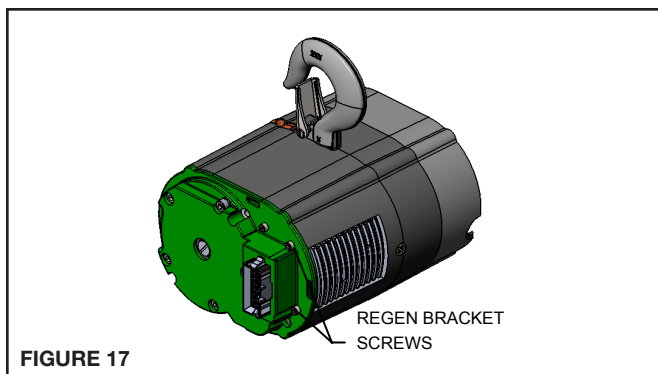

FIGURE 17
8. To remove the stator, first remove the three motor cover screws (129) and pull the motor control end cover a few inches away from the motor. Ground screw (164) must be removed from the motor end bell. Also remove the 10 wiring harness leads from the motor control PCB by individually lifting the spring loaded retention levers on the terminal strip and pulling the wire from the block. Remove the regen bracket screw (141), and loosen the two screws holding the regen bracket to the end bell. (Figure 17)
9. Before assembling the stator, install the pin plate retainer (104) and mounting screws (105). The screws holding the regen bracket to the motor end bell should be partially loosened. Slide the motor into the main frame (100) being careful not to damage the heat transfer tape located on the edge of the regen